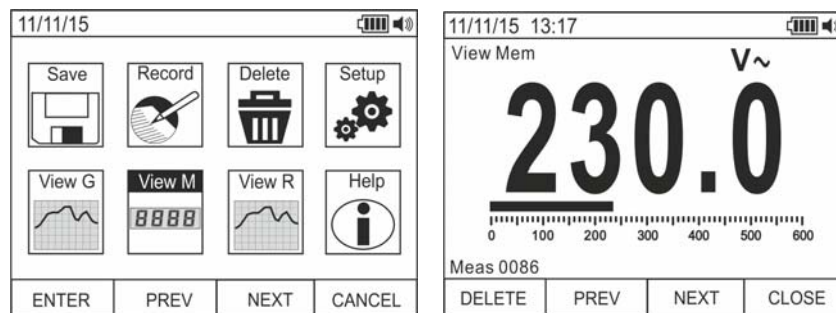

Fig. 19: Recalling measured data (snapshots) on the display
31. Use the **F2** or **F3** key to select symbol “View M” and press the **F1** key (see Fig. 19 – left side).
32. Use the **F2 (PREV)** or **F3 (NEXT)** key to select and view the desired measure among the ones saved in the instrument's memory (see Fig. 19 – right side). The measure reference appears at the bottom of the display on the right side.